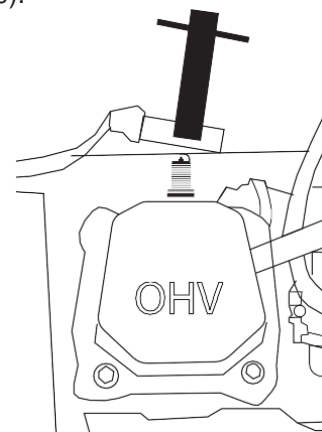

Figure 19: Remove Spark Plug
24. Using the spark plug socket wrench provided, remove the spark plug from the cylinder head (see Figure 19).